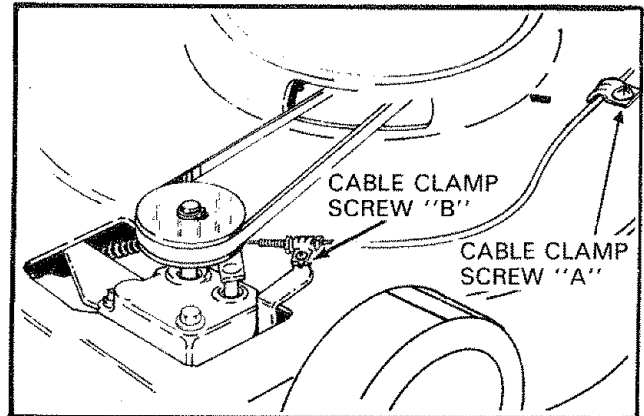

FIG. 23
2. Loosen cable clamp screws "A" & "B" (See Figs. 23).
11. Tighten screw "A" (Fig. 23).